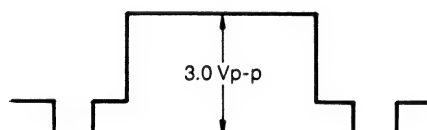

Figure 13. AGC Adjustment
3. Adjust AGC VR (R152) on the Main Board for 3.0 Vp-p on scope (See figure 13).